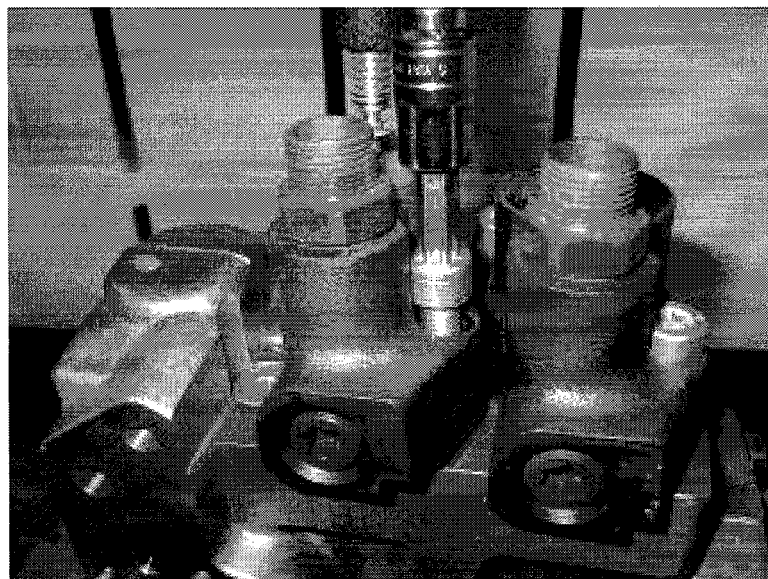

Figure 6 – High Pressure Fuel Pump T-50 Torx Bolt Removal
10. Remove the two T-50 Torx bolts from the front pumping element. See Figure 6.